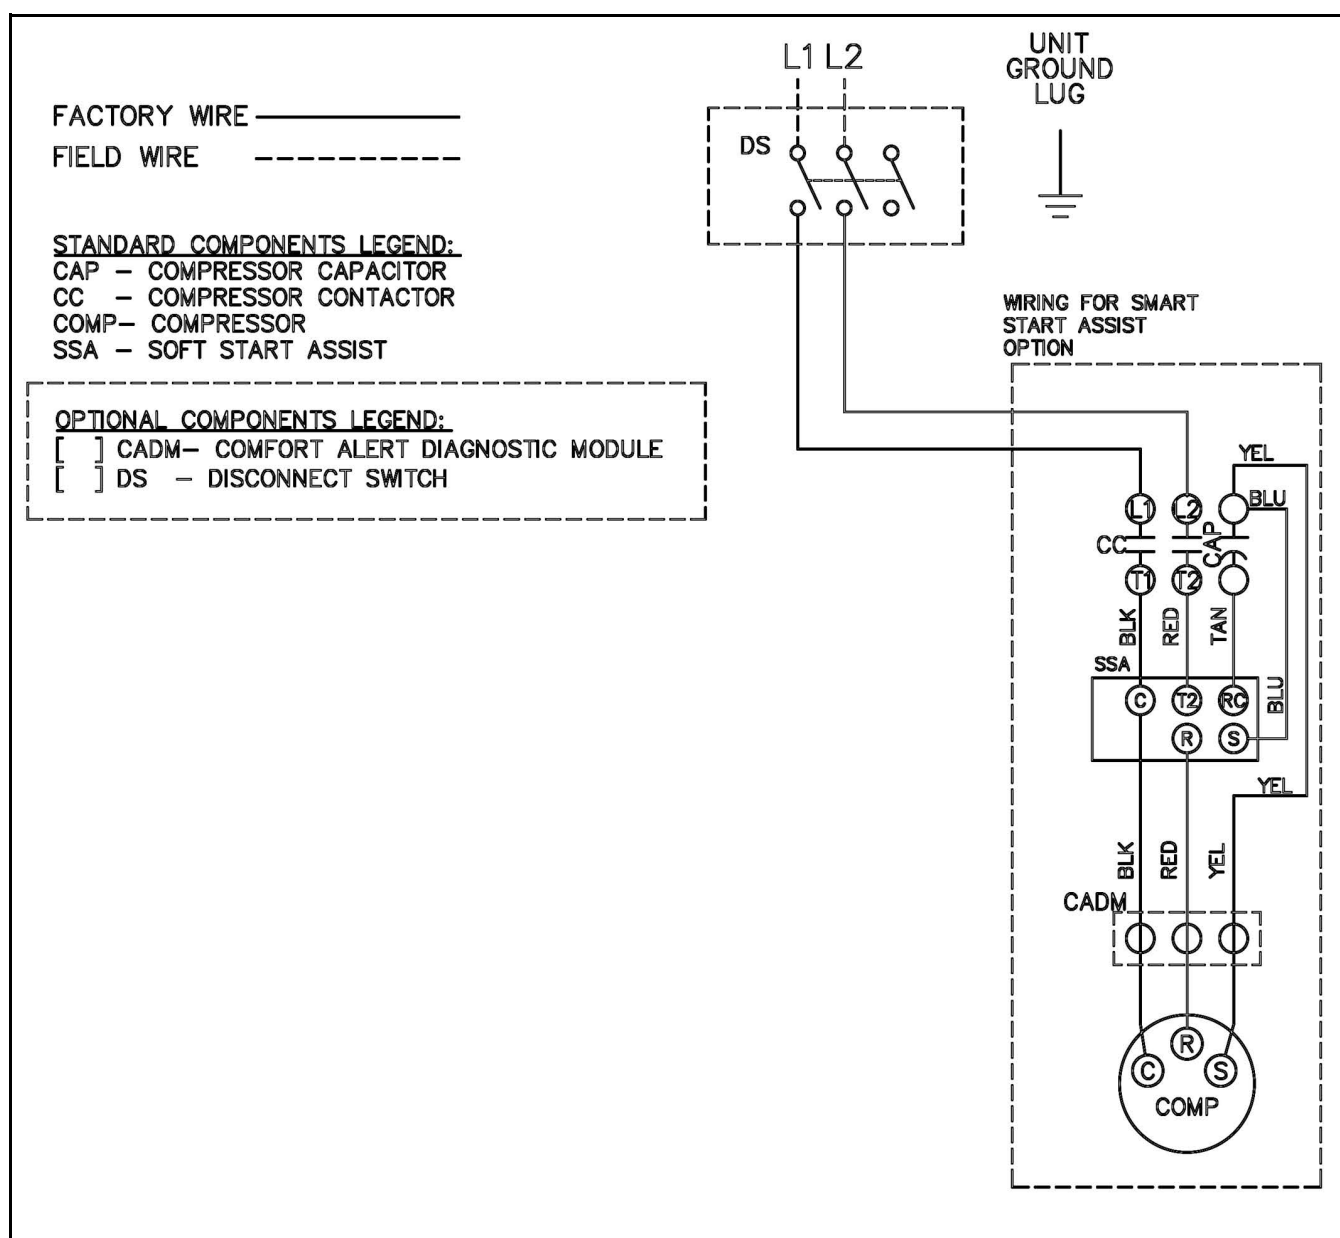

Fig. 21 Smart Start Assist Wiring Schematic
1. Verify that the installation and termination of all the wires match the electrical schematic shown in Fig. 21.